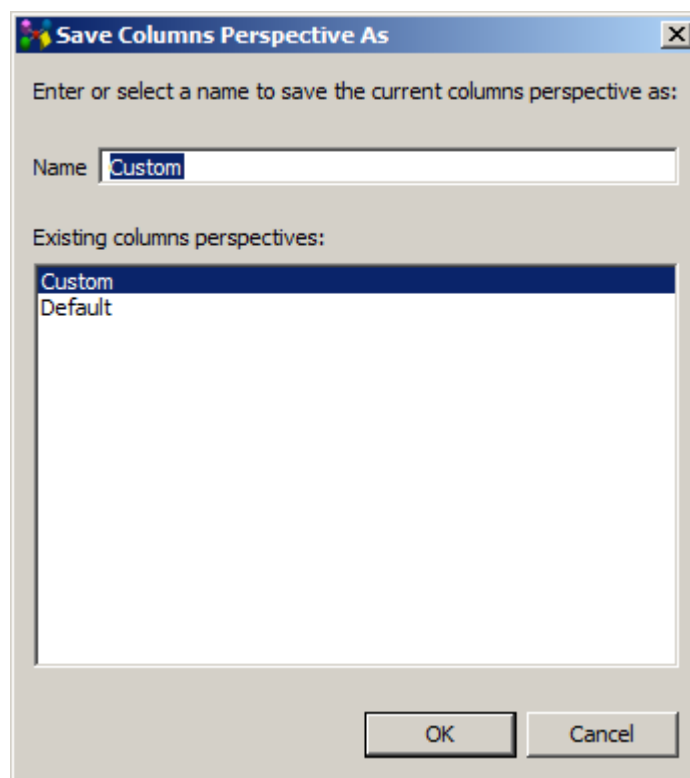

Figure 2. Save Columns Perspective As dialog window
- The **Save Columns Perspective As** dialog window appears on the screen (see Figure 2):